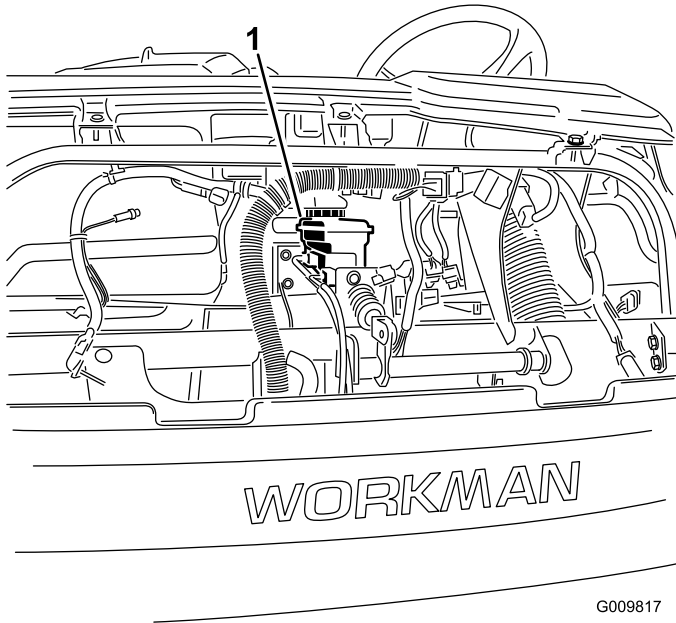

Figure 57
4. Raise the hood to access to the master brake cylinder and reservoir (Figure 57).